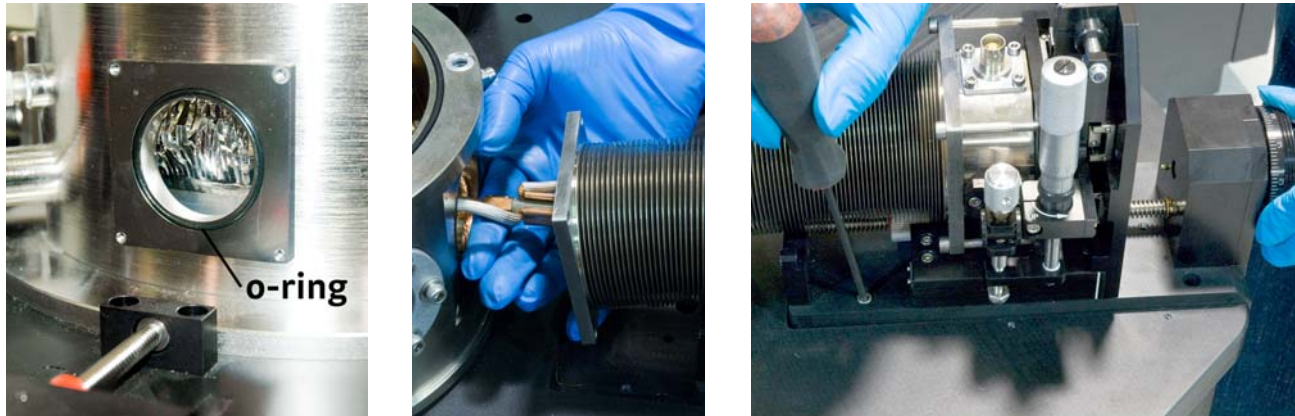

FIGURE 5-6 *Left: Prepare the o-ring and groove; Middle: Guide the cable and probe arm through the arm port; Right: Secure the stage to the table*
6. Clean the o-ring groove in the probe arm port (FIGURE 5-6). Clean, inspect and lightly grease the o-ring with vacuum grease and place it in the groove.
7. Slide the stage onto the probe arm location, and carefully guide the cable and probe arm through the arm port (FIGURE 5-6). Take care that the cable and probe arm enter the radiation shield. The copper arm shield braids go between the chamber and radiation shield.
8. Using a 3 mm hex driver, secure the stage to the baseplate with the four M4 screws (FIGURE 5-6).